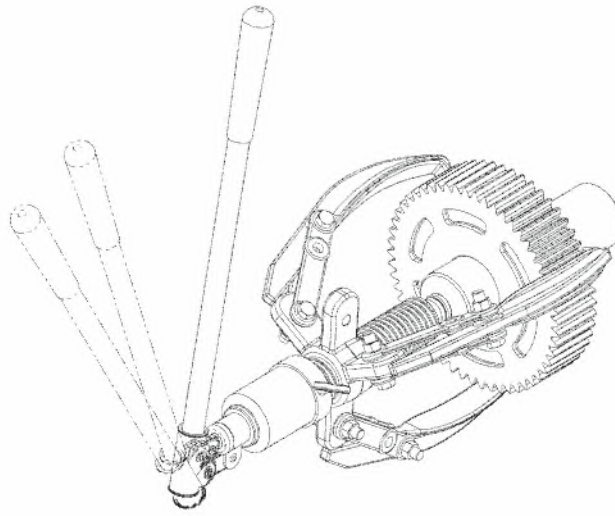

FIGURE 4.
6. Advance the piston until the part is removed making sure to support the puller body with one hand. See Figure 4.